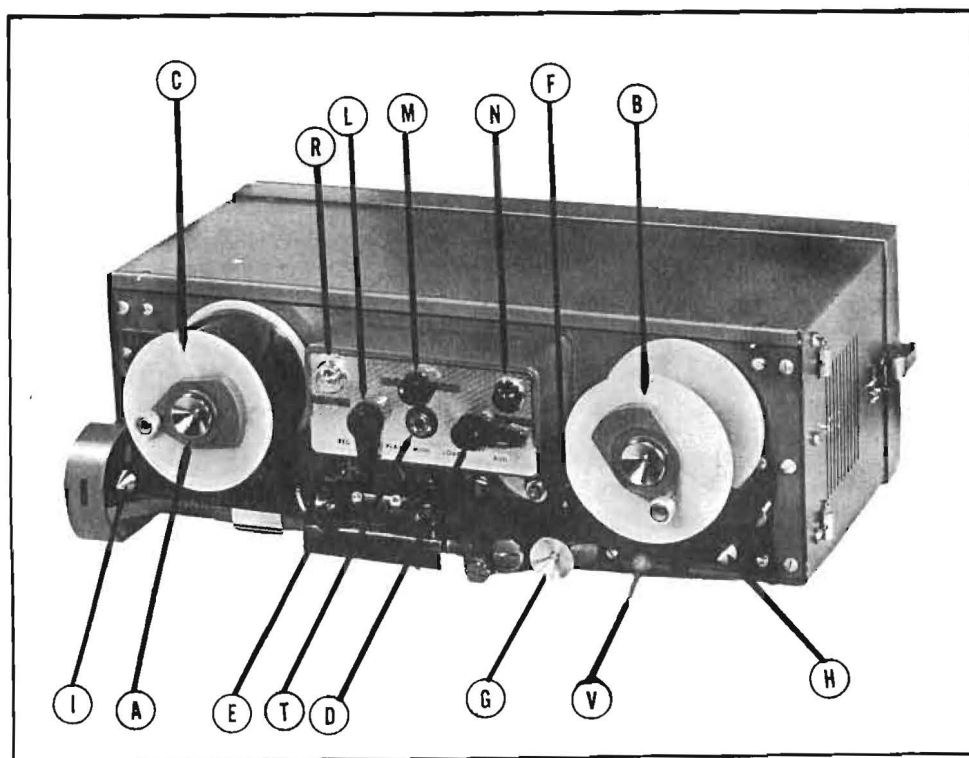

FIG. 2. Front Panel Controls
LOADING FIG. 2
Rotate LOAD lever (D) fully clockwise to LOAD position, as illustrated in Figure 2. This raises gate (E) up and away from magnetic heads, and rubber pressure roller (F) up and away from tape feed roller (G), allowing tape to be easily threaded.
Thread magnetic tape through machine as illustrated in Figure 2, attaching end of tape to hub of empty reel with adhesive tape (so that tape will wind on reel with glossy side out when reel is rotated in clockwise direction). Make sure tape is properly aligned in guides (H) and (I).
RECORDING FIGS. 2, 3, 4
PLAYBACK FIG. 2